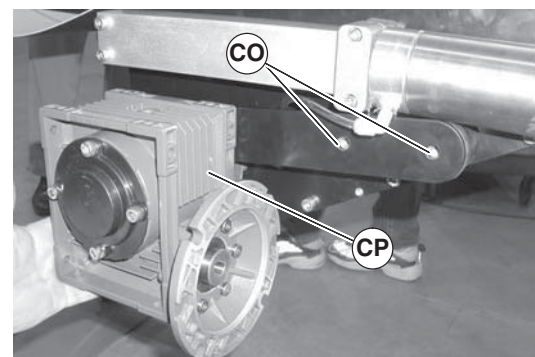
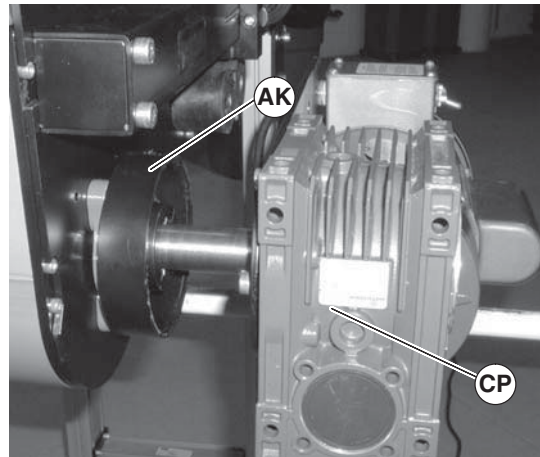

Figure 85
Figure 89
2. Remove screws (Figure 85, item CO) and remove gearmotor (CP) (Gearhead shown with motor removed for clarity, motor can remain attached to gearhead).
9. Reinstall spacer ring (Figure 89, item AK) and gearmotor (CP). Tighten screws (Figure 85, item CO) to 150 in-lbs (17 N-m).